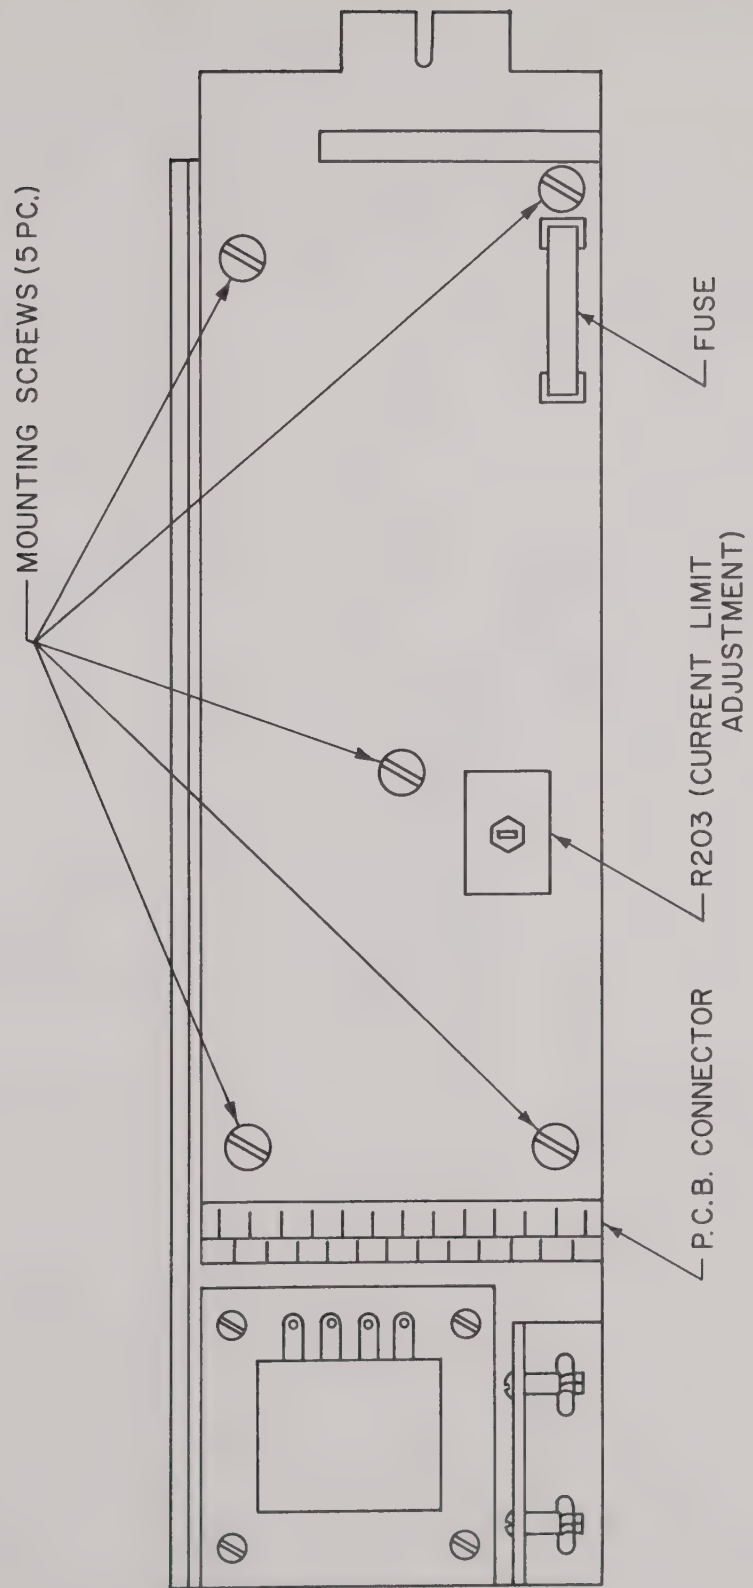
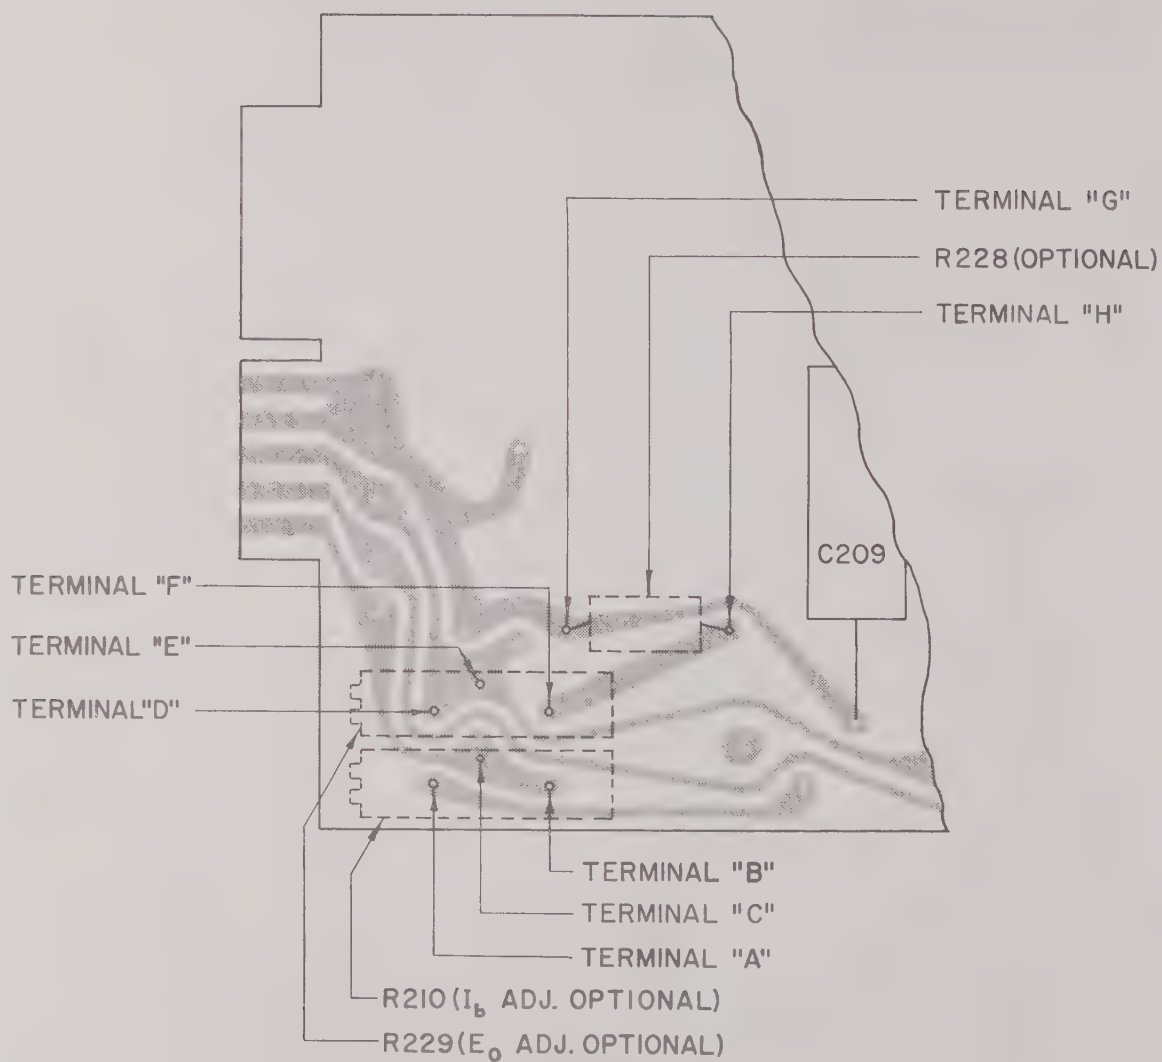

FIG. 5-1, LOCATION OF CURRENT LIMITING
FIG. 5-2, INSTALLATION OF OPTIONAL
FOR CURRENT LIMITING CONTROL (Refer to Fig. 5-1)
(Refer to Fig. 5-1 and Fig. 5-2)
- a) Remove the five mounting screws as indicated on Fig. 5-1. Remove PCB connector and lift PCB from assembly.
- b) Install components as directed in the following paragraphs and as shown in Fig. 5-2.
- b) Insert 1K ohm, W.W. potentiometer, Bourns "Trimpot" No. 3067S-1-102, KEPCO Part Number 115-0739 or equivalent in the space outlined on Fig. 5-2. Solder in place.
- c) Turn potentiometer to its approximate mid-position. Install a precision resistor (R_{VC}) across barrier strip terminals (8) and (9) and connect a precision voltmeter across the output terminals (5) and (6). Since the bridge current (I_b) is 1 ma, and the control ratio is 1 K ohm/V, the output voltage (E_o) will be equal to $E_o = I_b R_{VC}$. (i.e. for each 1000 ohms of voltage control resistance (R_{VC}) one volt of output voltage will appear across the output terminals.)
- a) If the PAX Power Supply is used as a fixed source, the voltage control resistance, R_{VC} , can be internally installed on the printed circuit board as indicated in Fig. 5-2.
- 5-11 Servicing beyond simple part replacements should be attempted only by personnel thoroughly familiar with solid state components and with experience in closed loop circuitry. Since "trouble-shooting charts" containing resistance and voltage measurements at various places in the equipment are not very useful in feedback amplifiers, we have not included them in this manual. Presented instead is a fairly extensive circuit description (Section IV), detailed diagrams showing adjustments and parts location (See Fig. 5-1, 5-2, 5-5, and 5-6), as well as the Main Schematic, Fig. 5-7, which together should provide the necessary information for qualified personnel in the repair of this instrument. KEPCO Field Engineers and the KEPCO Repair Department are always available for prompt service in difficult cases.